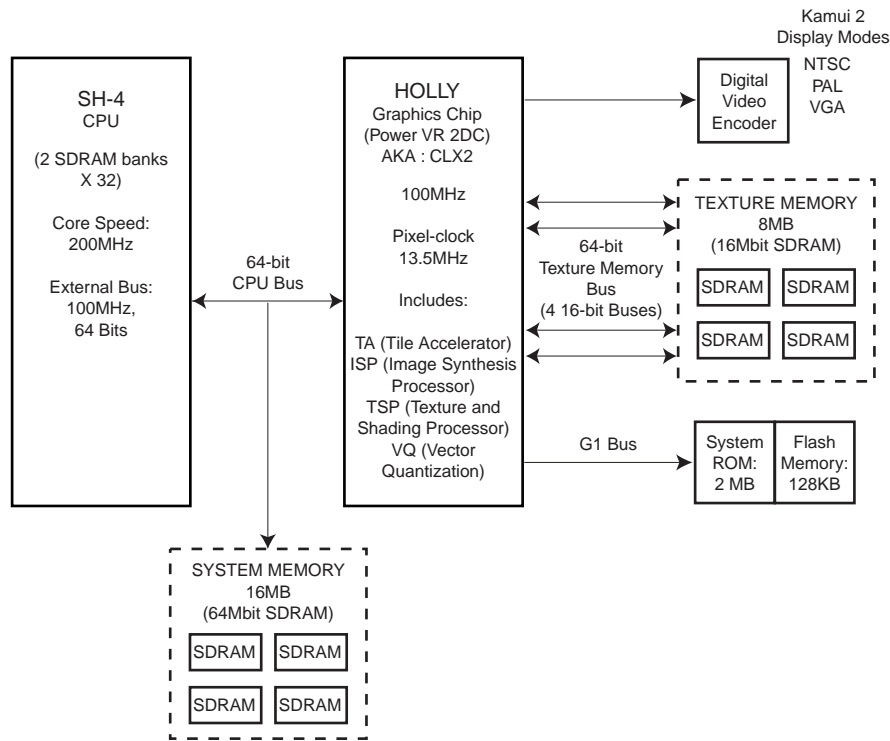
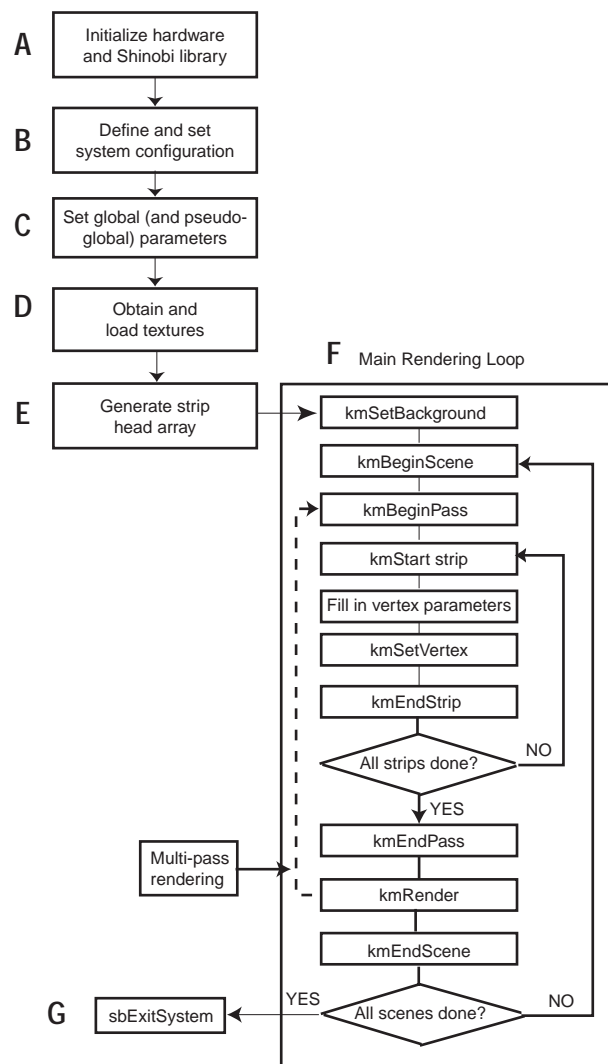

Figure 2.1 Sega Dreamcast Graphics Components
Figure 2.2 Kamui 2 Process Flow
Figure 2.1 illustrates the architecture of the graphics-related components in the Sega Dreamcast system.
The components shown in Figure 2.1 are described under the following subheadings.
- **Free bi-linear filtering:** The PowerVR 2DC supports four kinds of destination blending: point sampling, bi-linear filtering, tri-linear filtering, and anisotropic filtering (which can improve the looks of long straight lines, such as long flat horizons in driving games). But the kind of destination blending you'll probably be most interested in is bi-linear filtering, which you can use at practically no cost in the Kamui 2/Sega Dreamcast environment. Why? Because the PowerVR 2DC transfers data to and from texture memory using a 100MHz 64-bit bus that is divided into four banks of 16 bits each (see Figure 2.1). Because Sega Dreamcast textures always consume 16 bits of memory or less, this bus configuration means that the PowerVR 2DC can fetch 4 texels from texture memory in a single pass — and that means, in turn, that the PowerVR 2DC can acquire enough data in a single fetch operation to perform bi-linear filtering. So you can use as much bi-linear filtering as you like, virtually free of charge, in your Sega Dreamcast titles. (For more information about how Kamui performs bi-linear filtering and other kinds of destination blending, see Section 4.6 of the Dreamcast Roadmap and Overview manual.)
The Sega Dreamcast Digital Video Encoder (shown in the upper right-hand corner in Figure 2.1) supports the VGA, NTSC, and PAL video formats in four display modes: 320 by 240, 320 by 480, 640 by 240, and 640 by 480 pixels. The most commonly used format is 640 by 480 pixels. An extended PAL mode stretches the display to fill a PAL TV screen.
Figure 2.2 illustrates the process flow of a typical Kamui 2 application. These are the steps shown in the diagram:
When your application's main rendering loop ends, so does the Kamui process flow illustrated in Figure 2.2. The processing flow concludes with a Shinobi Library call, `sbExitSystem` (G).
Referring back to Step A Figure 2.2, notice that the Kamui 2 process flow begins with initialization of the Sega Dreamcast hardware and the Shinobi library. Examine the `QuikTst` sample program presented at the end of this chapter, and you will see that the application calls two API functions during this initial stage of processing:
In Kamui 2, you cannot transfer texture data to texture memory directly from files or I/O devices. To register a texture, an application simply transfers data from an area allocated in system memory into a different area of memory: specifically, texture memory (see Figure 2.1, “Sega Dreamcast Graphics Components.”) It is important to note that you do not have to register textures at the exact point shown in Figure 2.2; actually, you can perform texture registration at any point shown in the diagram. Just be careful not to rewrite texture data during the rendering process.
As Figure 2.2 illustrates, an application terminates vertex data registration ends with a call to the `kmRender` function. When you start setting global scene parameters, a call to `KmFlipFrameBuffer` will direct Kamui 2 to wait for the next Vsync to start rendering a scene.